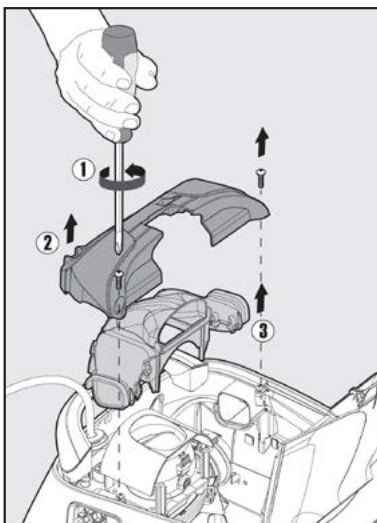

Figure 22
Using a No. 2 Phillips-head screwdriver, remove the two screws that hold the intermediate cover and manifold assembly in place. These screws can be found in the inside corners of the intermediate cover. See **Figure 22**.
2. Gently pull the intermediate cover (Item #2 in **Figure 22**) away from the cleaner and place it to the side.
3. Gently pull the manifold assembly (Item #3 in **Figure 22**) away from the cleaner and place it to the side.